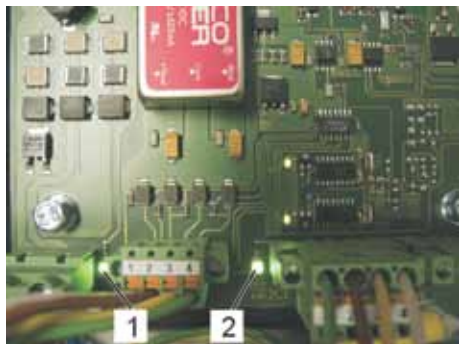

Fig. 113: Line Converter box
6. Check if the LED is on (Fig. 113/1+2).